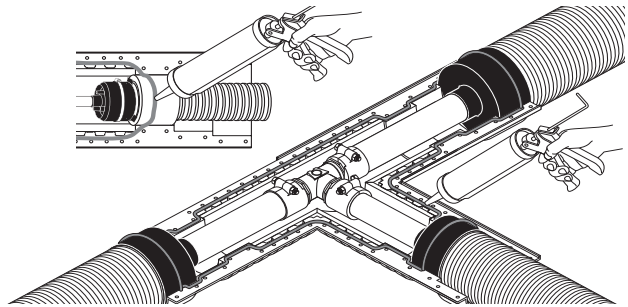

Figure 4-69: Sealant compound
9. Apply sealant compound to end caps and shell as shown (**Figure 4-69**).